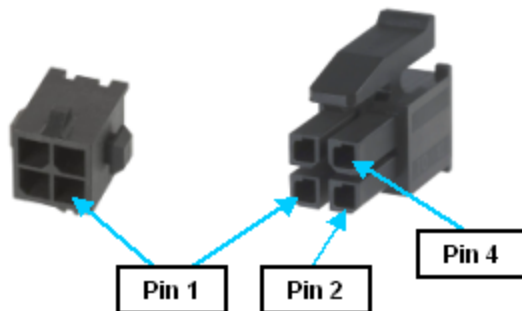

Figure 4-15: Four-Pin AMP 3-794620-4 Connector & AMP 794617-4 Plug
This is a four-pin AMP 3-794620-4 connector that: (1) outputs a signal that controls turning on and off an external motor power supply and (2) provides the 24 VDC that powers the digital section of the controller. The mating plug is an AMP 794617-4 (Figure 4-15).